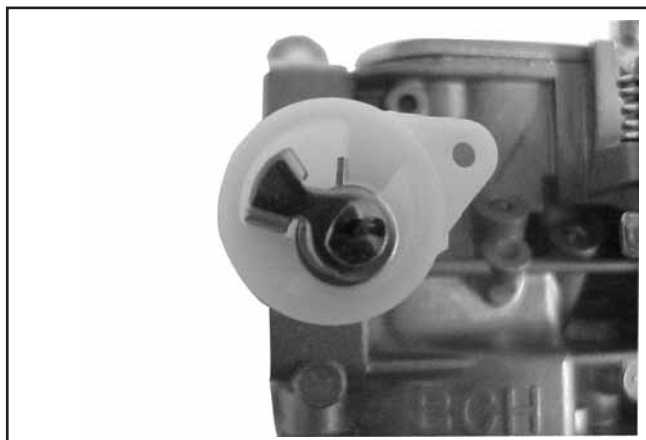

Figure 5-28. Choke Details.
4. Note the position of the spring legs and the choke plate for correct reassembly later. See Figure 5-28. Remove the two screws attaching the choke plate to the choke shaft. Pull the shaft out of the carburetor body and discard the removed parts.